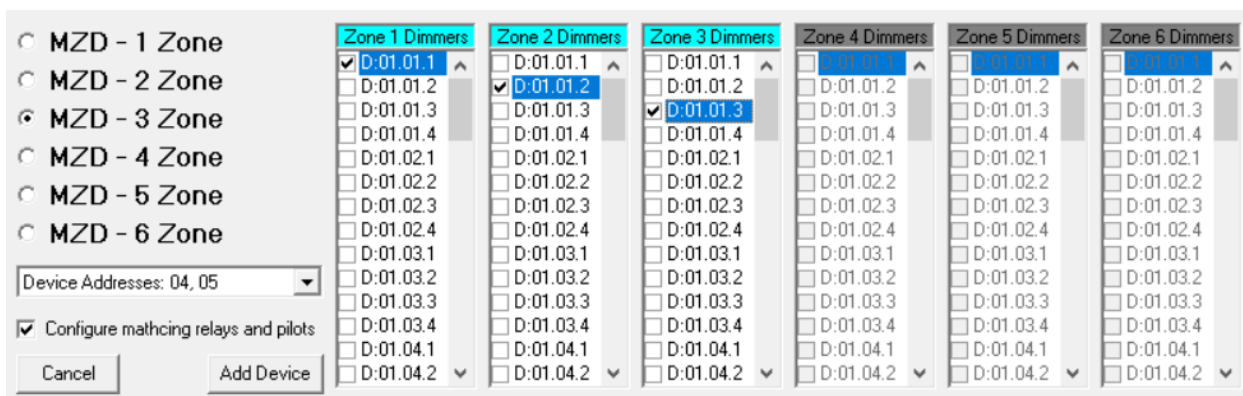

Figure 1
- Use the selection table at the right to link the Zones to the Dimmer. See Figure 1 and 2